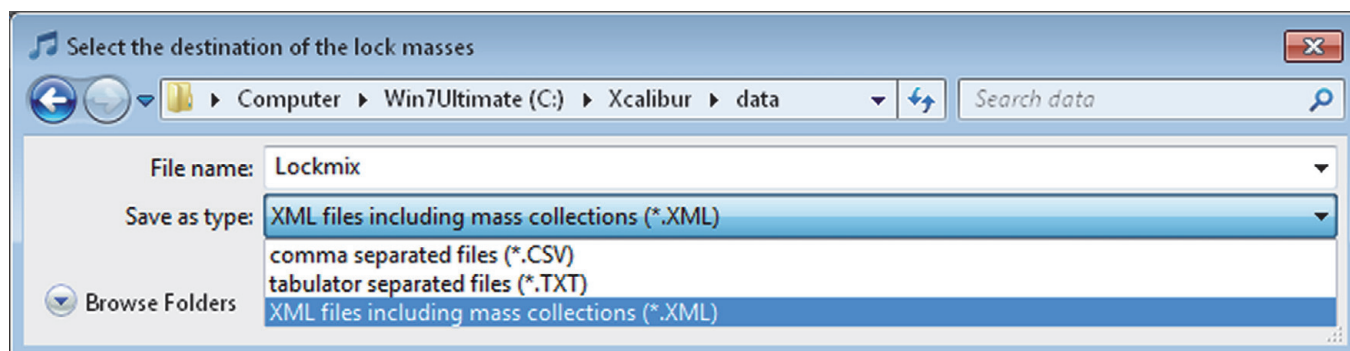

Figure 5-3. Selecting the lock mass export file
2. Choose **Export > Copy all to file** to open the file selection dialog box. See Figure 5-3.